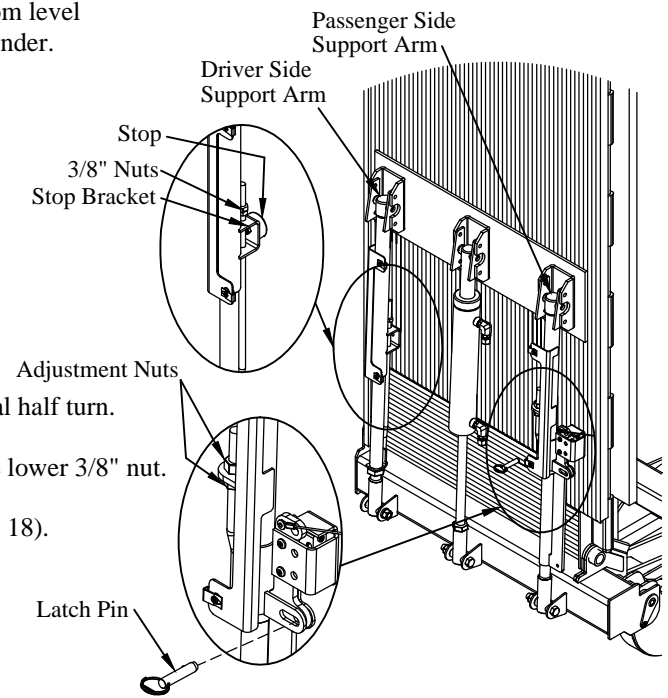

Figure 18: Platform adjustments.
- 2. Loosen** the 3/8" nuts on the driver side support arm (Figure 18) so they do not contact the stop when the platform is folded.
- Tighten** the lower 3/8" nut on the driver side support arm until it contacts the stop bracket (Figure 18).
- Loosen** the adjustment nuts on the passenger side support arm (Figure 18).